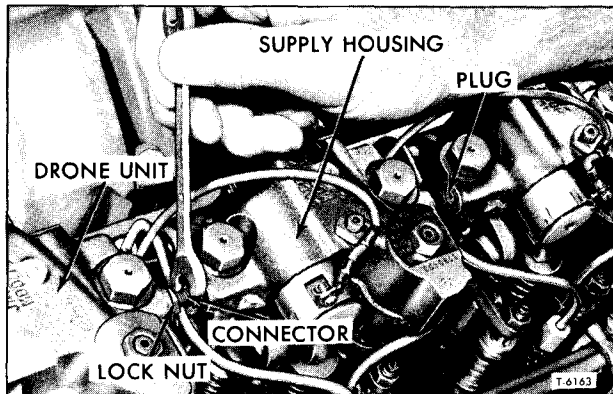

Figure 35—Removing or Installing Oil Connector
3. Loosen lock nut on oil connector(s), then use wrench (fig. 35) to turn the connector into the drone unit far enough to permit removal of either housing.